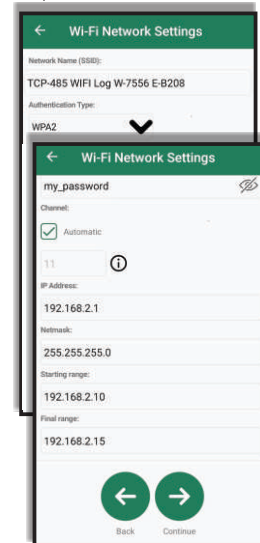

Figure 13
Step 3: On the **Wi-Fi Network Mode** screen, select the **Wireless Router** option (Figure 13).